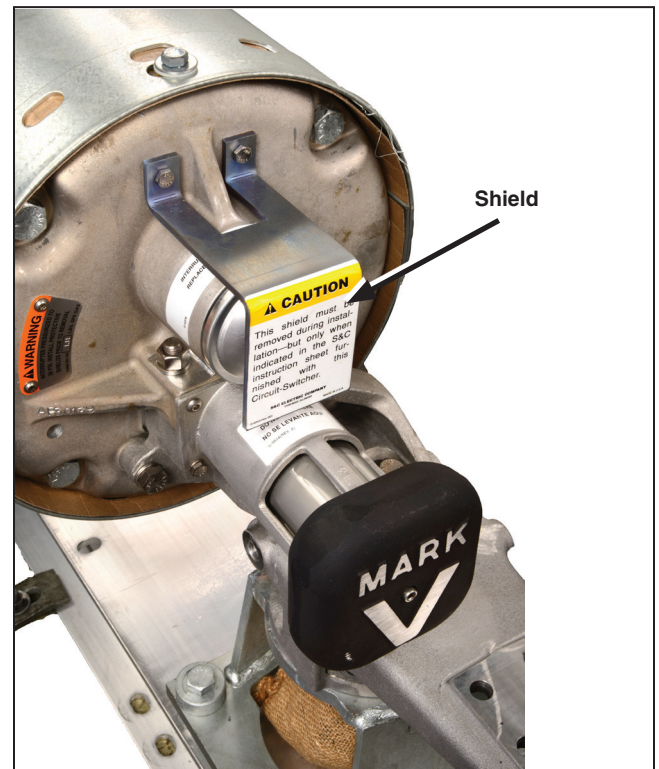

Figure 12. Removing the pressure relief device shield.
- STEP 6.** Remove and discard the shield for the pressure-relief device. See Figure 12.